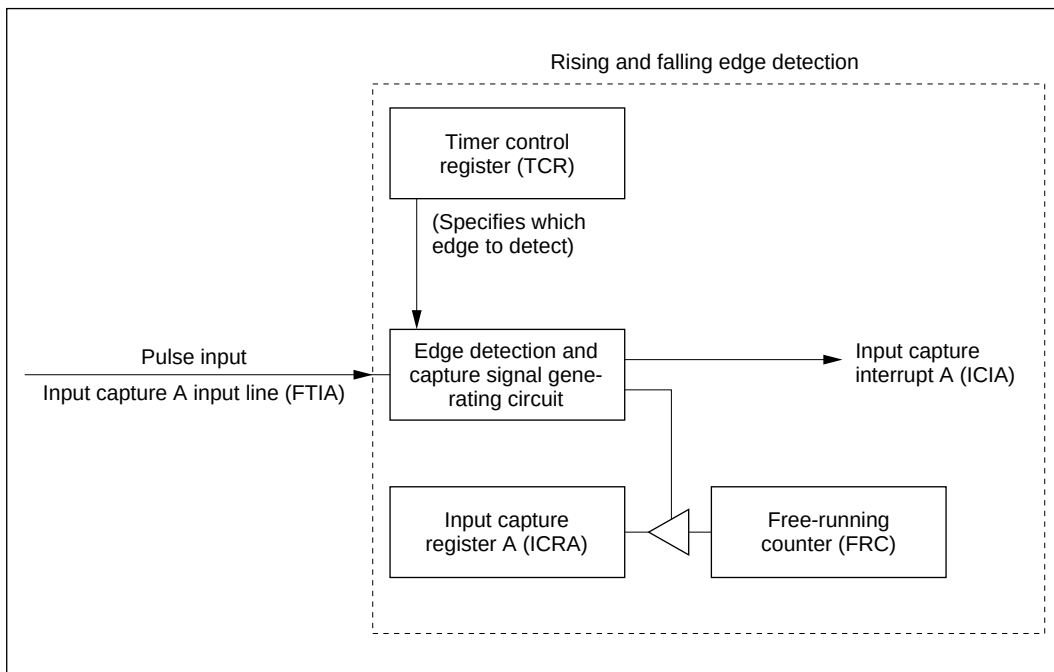

Figure 2 16-Bit Free-Running Timer Block Diagram
1. Figure 2 shows a block diagram of the 16-bit free-running timer used by this sample task. The 16-bit free-running timer has the following functions:
This sample task uses these functions as shown in figure 2 to measure high and low pulse width.